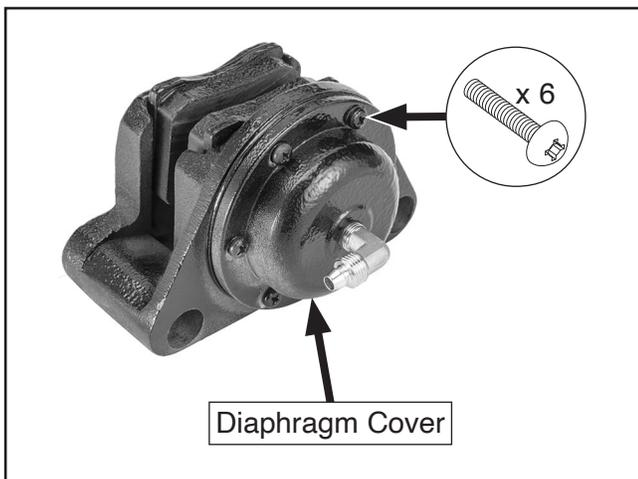
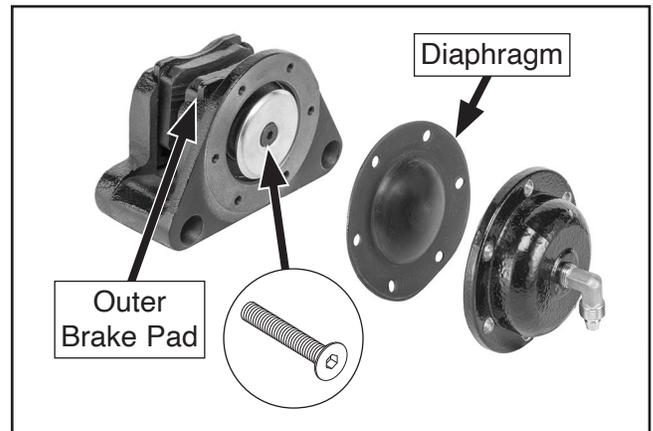
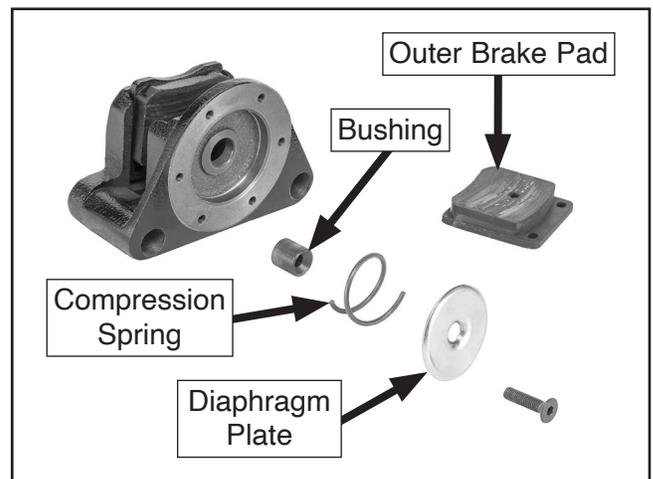

Figure 86. Location of diaphragm cover and screws.
Figure 87. Diaphragm removed from disc brake assembly.
Figure 88. Outer brake pad components.
- Remove (6) Phillips head screws shown in **Figure 86** to remove diaphragm cover and diaphragm (see **Figure 87**) from disc brake assembly.
- Remove diaphragm plate flat head cap screw (see **Figure 87**) to remove diaphragm plate, compression spring, bushing, and outer brake pad (see **Figure 87–Figure 88**).
- Install new outer brake pad and secure with bushing, spring, diaphragm plate, and flat head cap screw. Make sure to install components in same order and orientation as they were removed (see **Figure 88**).
Note: *Countersunk end of bushing should face diaphragm plate (see **Figure 88**).*